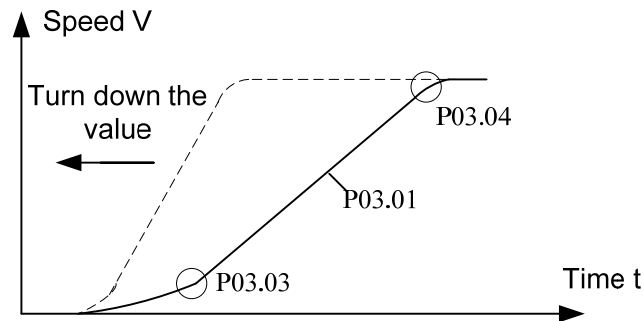

Figure 6.8 Influence of curve parameters on elevator operation curve
**Note 5:** Influence of the above S curve parameters on the elevator operation curve is shown as Figure 6.8. P03.01 and P03.02 will determine the gradient of speed curve (S curve), the smaller the value is, the steeper the gradient will be; P03.03 ~ P03.06 will determine the round of four speed curves, the smaller the value is, the smaller the round will be (the bigger the curvature will be)